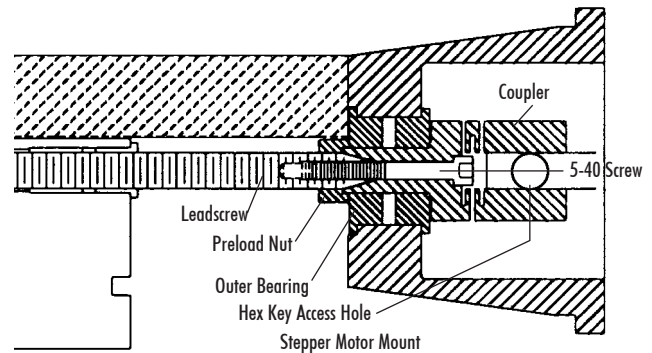

FIGURE 4—A cross-section of the stepper motor mount shows how the coupler is attached to the leadscrew.
1. Before you start, look at the cross-section view in Figure 4 and at the exploded view for the parts list. One of the most important parts of the assembly is to be sure that the preload nut is installed with the counter bore facing the bearing.
4. Using a 3/8" wrench, adjust the preload nut snugly against the end of the bearing. Tighten it enough to remove all endplay. (See Figure 4 to understand how the nut preloads the bearings.) Turn the coupler by hand to make sure it turns freely, then put a little LocTite® on the threads behind the preload nut and let capillary action draw the fluid in. Figure 3 shows using a hex key through the hole in the mount to keep the coupler from turning while tightening the preload nut.